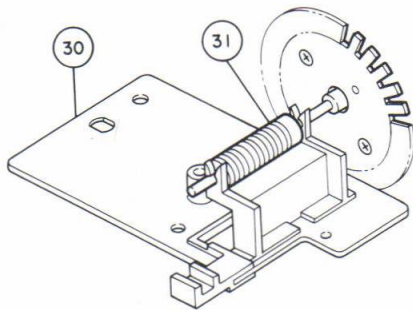

Fig. 11
Lift the Worm Gear Ass'y (31) up and off. (Figure 11)